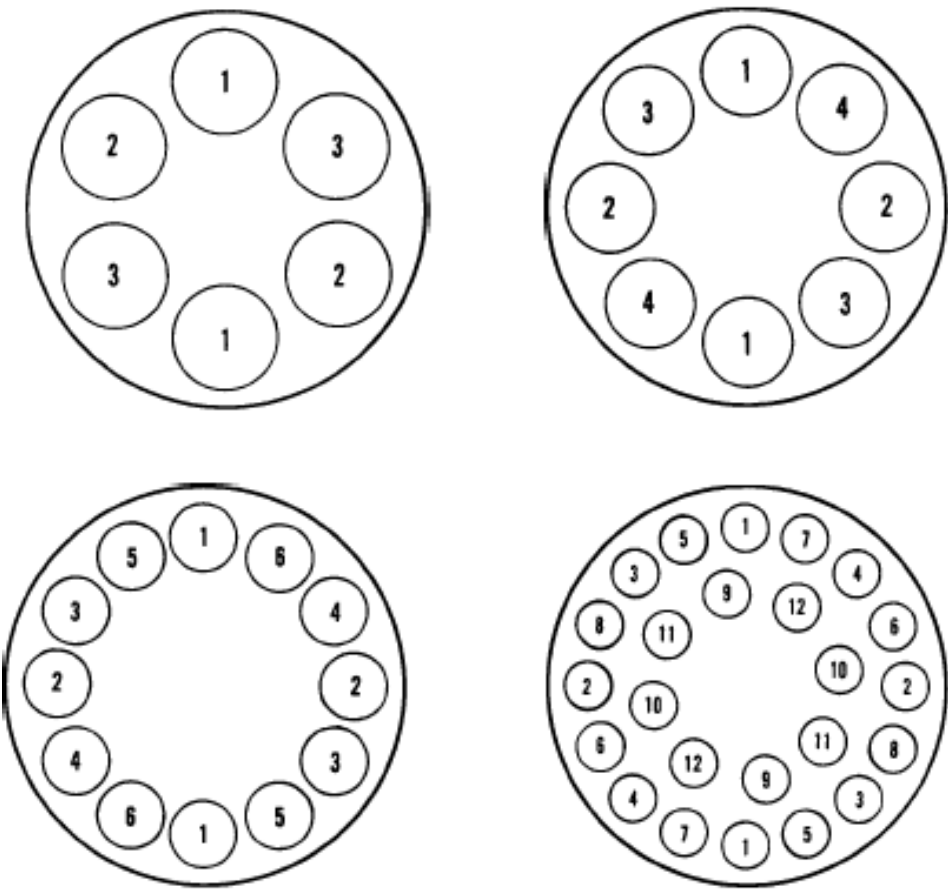

Figure 2-3. Rotor Balancing
The rotor can be operated with either a full or less than full complement of tubes as long as the load is properly balanced. Do not operate the rotor unless it is balanced as described below and illustrated in figure 2-3. Operating the rotor out of balance can cause damage to the centrifuge drive assembly.
- The load in each opposing rotor compartment, including adapters (where applicable), tube, and specimen must be properly balanced within five (5) grams. Rotor imbalance can cause damage to the centrifuge drive.
- When using less than a full complement of tubes, the rotor can be operated at its maximum allowable speed provided opposing pairs of tubes are positioned as shown in figure 2-3.